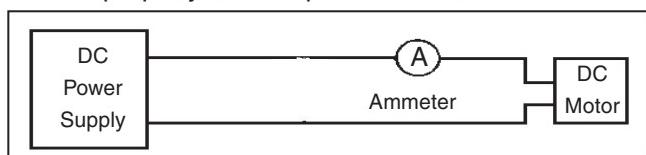

Figure 7.15—Ammeter Connection
- b. If the shaft turns freely, connect an ammeter to one of the power leads as shown on Figure 7.15. With the power connected and the motor turning freely the ammeter should read less than 20% of the full-load current (from the nameplate). If it does, the motor is functioning properly and the problem is elsewhere.
11. Once the shaft is spinning freely, perform a “no-load” test. Connect an ammeter as shown on Figure 7.15. With the power connected and the motor running the ammeter should read less than 20% of the full-load current (from the nameplate). A higher reading indicates: